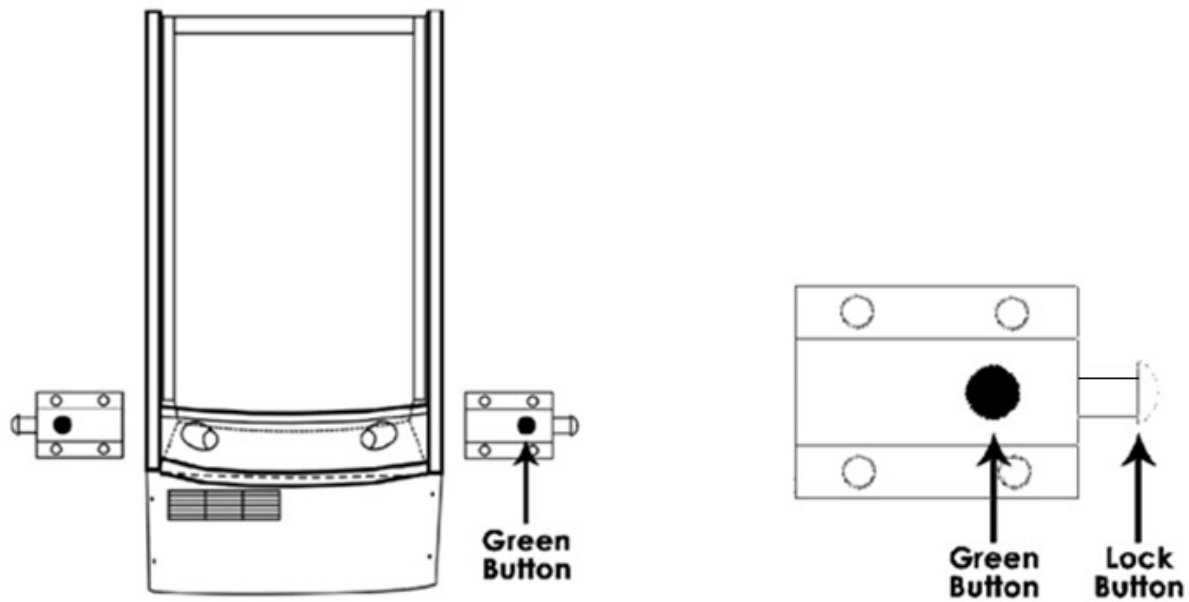

Fig. 4
On both sides of the fireplace locate the two (2) small pegs (**Figure 4**). Press the green button on both sides and then you can remove the logs or rocks to exchange with another option. Push the “Lock Button” to lock the chosen set of logs or rocks into place.